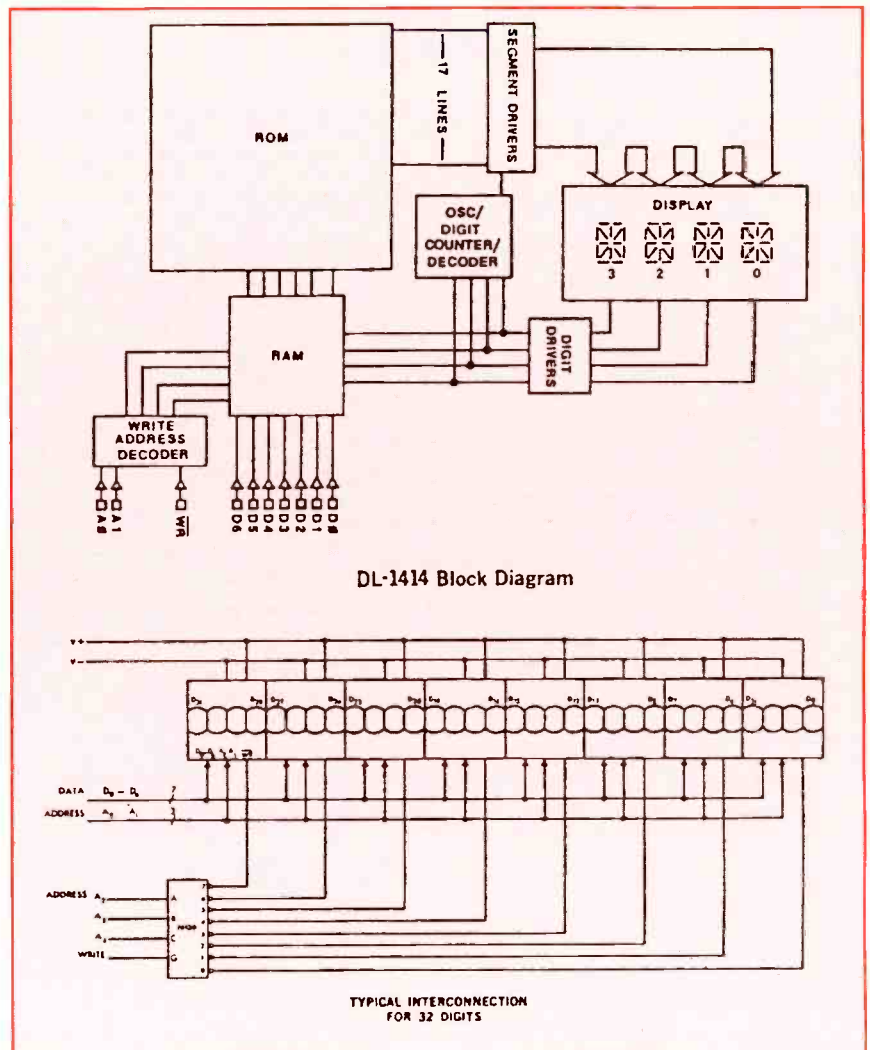

Fig. 4. Block diagram (upper) and typical interconnections for 32 digits (lower) for DL-1414. (Courtesy Litronix)
• **DL-1414 Intelligent Alphanumeric Display.** This four-digit display contains 16 bar segments per digit plus a decimal segment and a built-in CMOS IC. The chip contains memory, ASCII character generator and LED multiplexing and drive circuitry. Each digit is 0.112" high. To load data to the DL-1414, you simply supply the desired data code to the D0 through D6 data inputs, select a digit address via inputs to the A0 and A1 address lines and execute a write cycle. Shown in Fig. 3 are the pinout details for the DL-1414. Figures 4 and 5 provide the block diagram and character-set logic for the LD-1414.